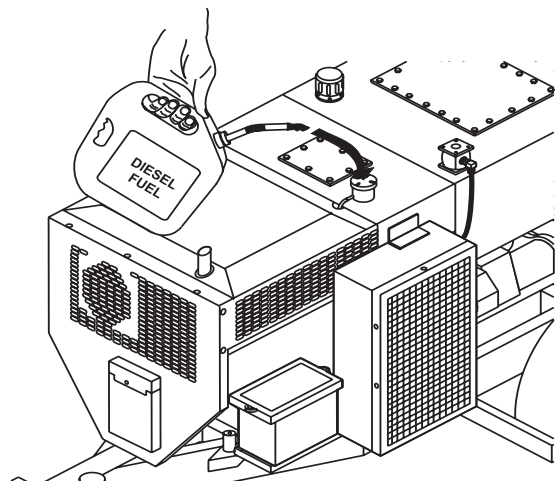

Figure 11. Adding Diesel Fuel
6. If fuel is low, remove fuel filler cap and fill with **#2 diesel fuel** (Figure 11).